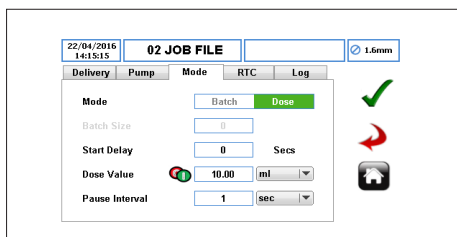

Figure 35 Memory Dose
- ▶ Press "✓", the value of Memory Dose will display in the dose value box as per *Figure 35*.